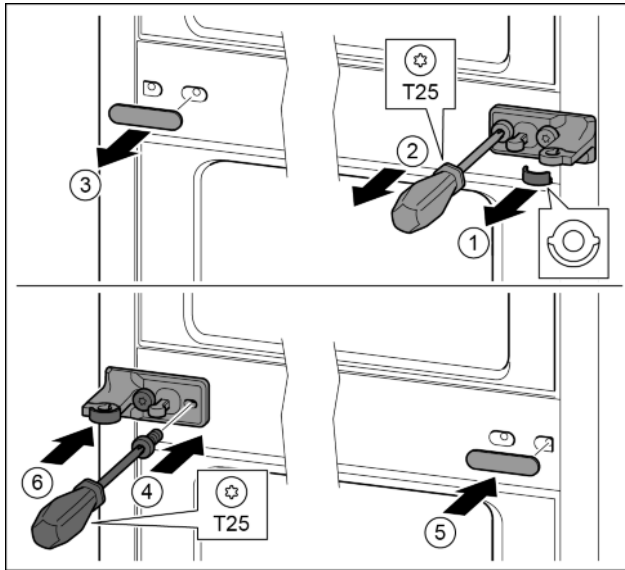

Fig. 14
- ▶ Remove the washer. Fig. 14 (1)
- ▶ Remove the screws with the T25 screwdriver. Fig. 14 (2)
- ▶ Remove the cover carefully. Fig. 14 (3)
- ▶ Screw the bearing bracket and the film rotated 180° firmly onto the other side. Fig. 14 (4)
- ▶ Attach the cover rotated 180° onto the other side. Fig. 14 (5)
- ▶ Push the washer in from the front. Fig. 14 (6)